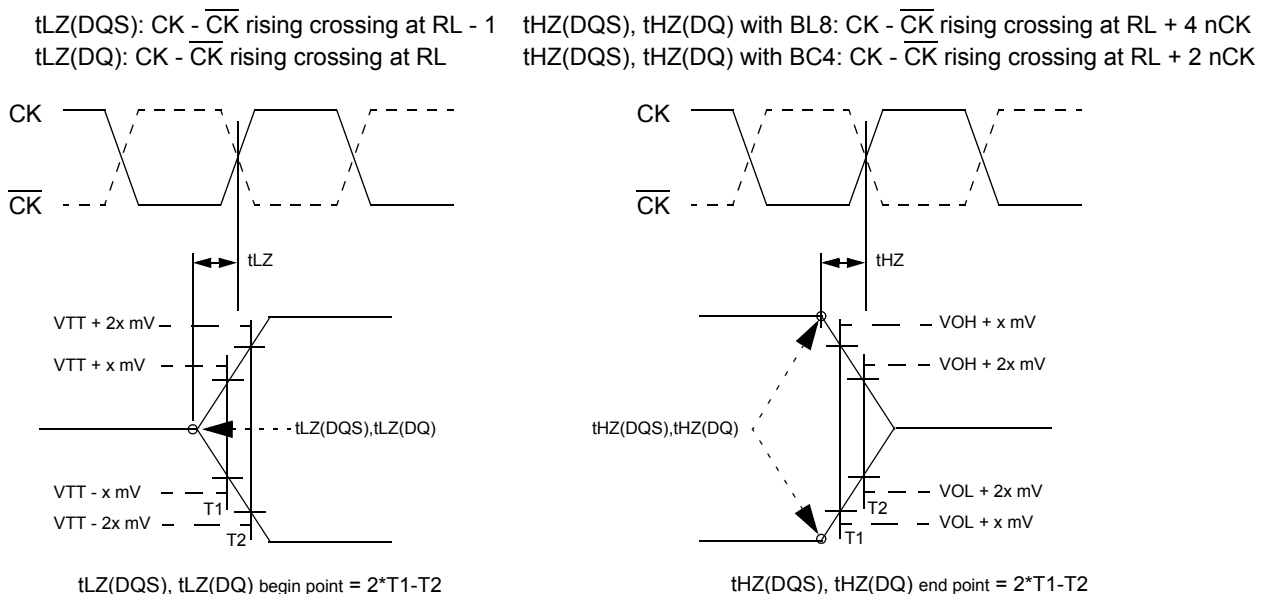

Figure 55. tLZ and tHZ method for calculating transitions and endpoints
$t_{LZ}(DQS)$ ,  $t_{HZ}(DQS)$  for preamble/postamble (see 17.13.2.3 and Figure 55)
tHZ and tLZ transitions occur in the same access time as valid data transitions. These parameters are referenced to a specific voltage level which specifies when the device output is no longer driving tHZ(DQS) and tHZ(DQ), or begins driving tLZ(DQS), tLZ(DQ). Figure 55 shows a method to calculate the point when device is no longer driving tHZ(DQS) and tHZ(DQ), or begins driving tLZ(DQS), tLZ(DQ) by measuring the signal at two different voltages. The actual voltage measurement points are not critical as long as the calculation is consistent. The parameters tLZ(DQS), tLZ(DQ), tHZ(DQS), and tHZ(DQ) are defined as singled ended.